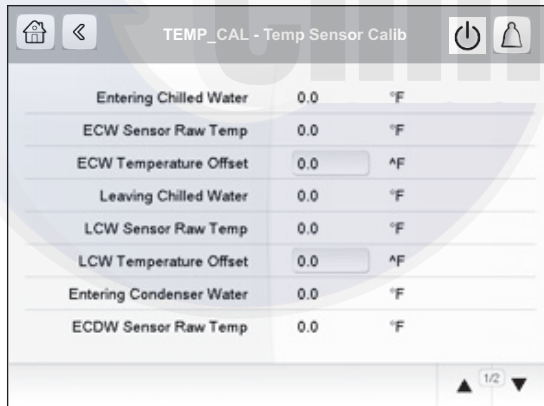

Fig. 38 — Temp Sensor Calib Screen, Page 1
5. In the Temp Sensor Calib screen, enter the temperature offset for the appropriate sensor as calculated in Step 4. See Fig. 38 and 39.